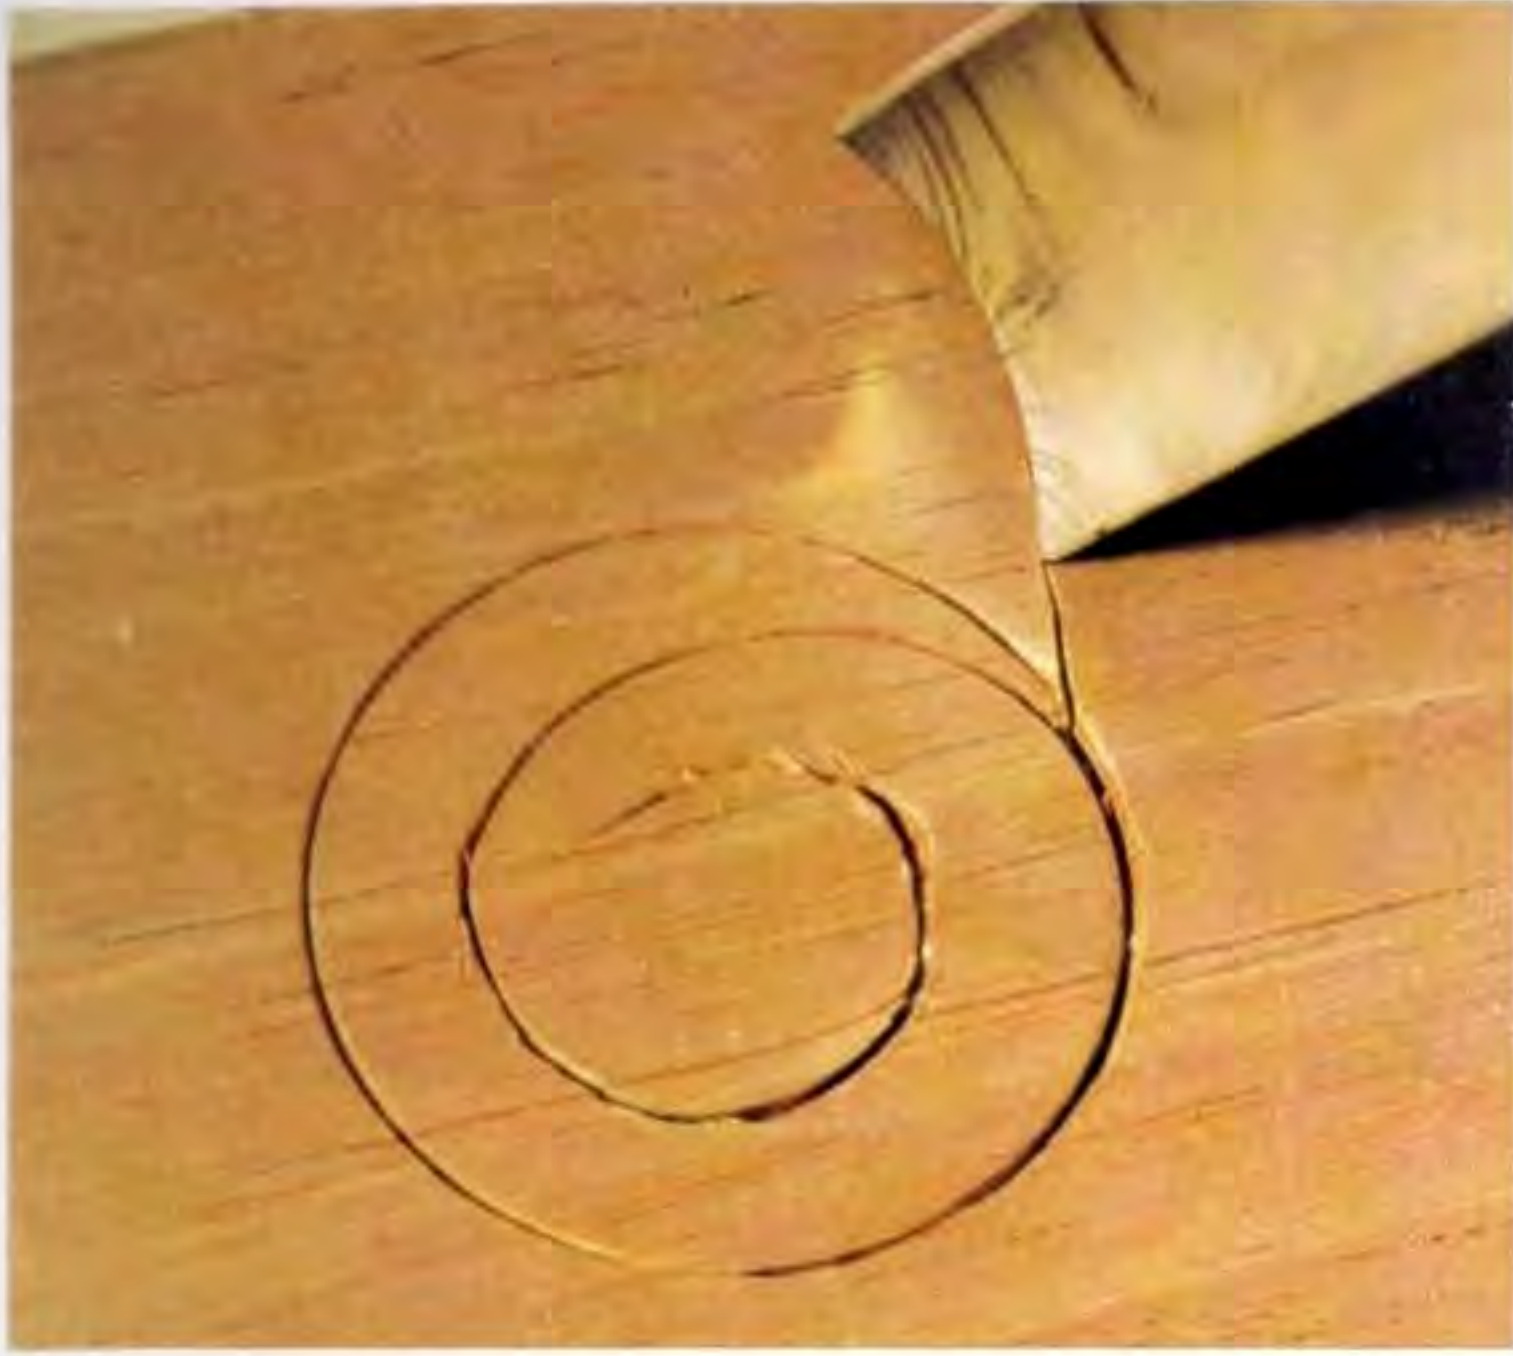

Fig 5.81 You will find it is virtually impossible to guide the gouge into a widening circle.
- 6 Return the tool to the starting position on the original incised circle, and instead of cutting a tighter circle with the gouge, try to slide the gouge along so that you reposition it *outside* the line, and try to cut an expanding spiral (see Fig 5.81). Lift the leading corner as you move the edge forward as before, but rotate the handle a little in the opposite direction. You will find the result disappointing, because this action is practically impossible using a gouge. The implications of this are discussed below.